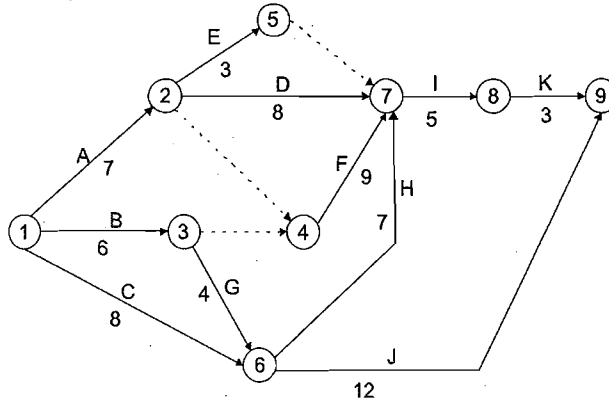

Fig.1
2. Fig. 1 shows plan and section of residential building calculate quantities of the following items and enter them in standard measurement sheet **any two**